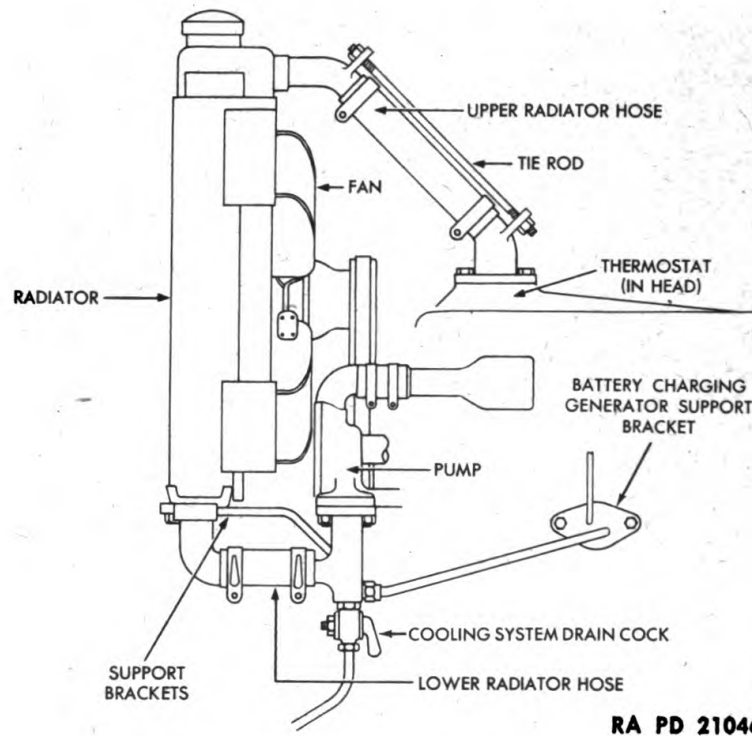

Figure 10 – Cooling System
35. DESCRIPTION (fig. 10).
(1) Run the engine until the temperature is within operating range. Stop the engine, remove the radiator cap, and drain the system by operating the drain cock. Do not depend upon the small drain cock, it may be clogged by the scale and sediment. If necessary, use a wire to keep open any drain hole which tends to become clogged, or better yet, remove the drain cock and the lower hose (fig. 10), and wash out thoroughly. The battery-charging generator support bracket which covers an opening into the lower part of the cylinder jacket (fig. 10) may also be removed to assure a good job of cleaning. Coolants containing ethylene glycol must be saved or discarded as outlined in War Department Circular No. 137, V. dated 16 June 1943.
(2) Allow the engine to cool. Replace the drain cock and close. Replace the lower hose and battery-charging generator support bracket. If the hose and gasket under the bracket are not in good condition replace before continuing cleaning operation. Start the engine at idling speed, and start immediately to pour water slowly into the radiator until it is nearly full. Add the COMPOUND, cleaning (Federal stock No. 51-C-1568-500), in the proportion of 1 container of cleaner to every 4 gallons of cooling system capacity, then fill the